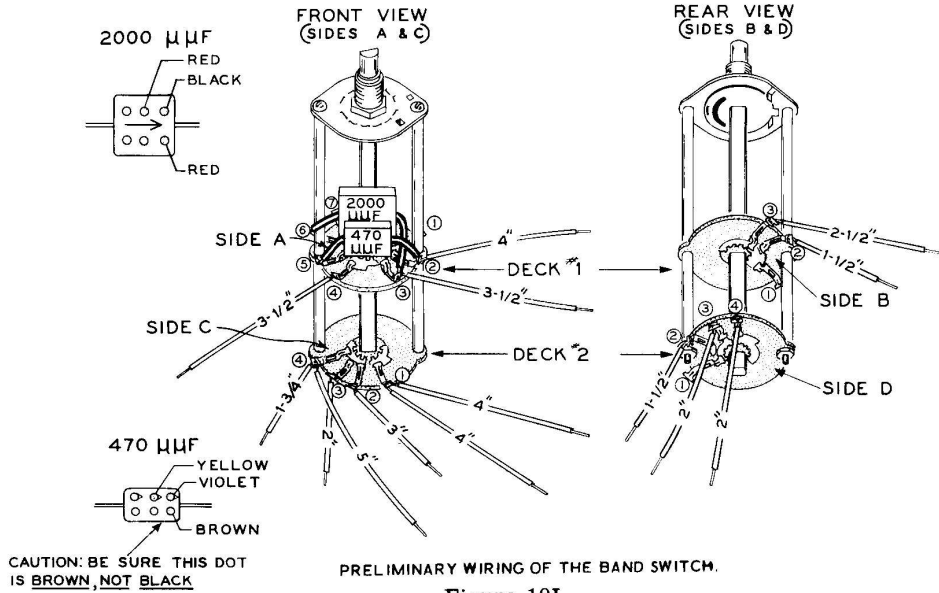

Figure 10L
Refer to Figure 10L for the following steps.
(✓) (P) Using sleeving on both leads, connect a .00047 μ fd (470 μ mf) mica capacitor from lug 2 (NS) to lug 5 (S) on side A of the band switch. This capacitor may have the color dots to identify it, or it may have .00047 (or just 470) printed on it. See the detail drawing in Figure 10L.